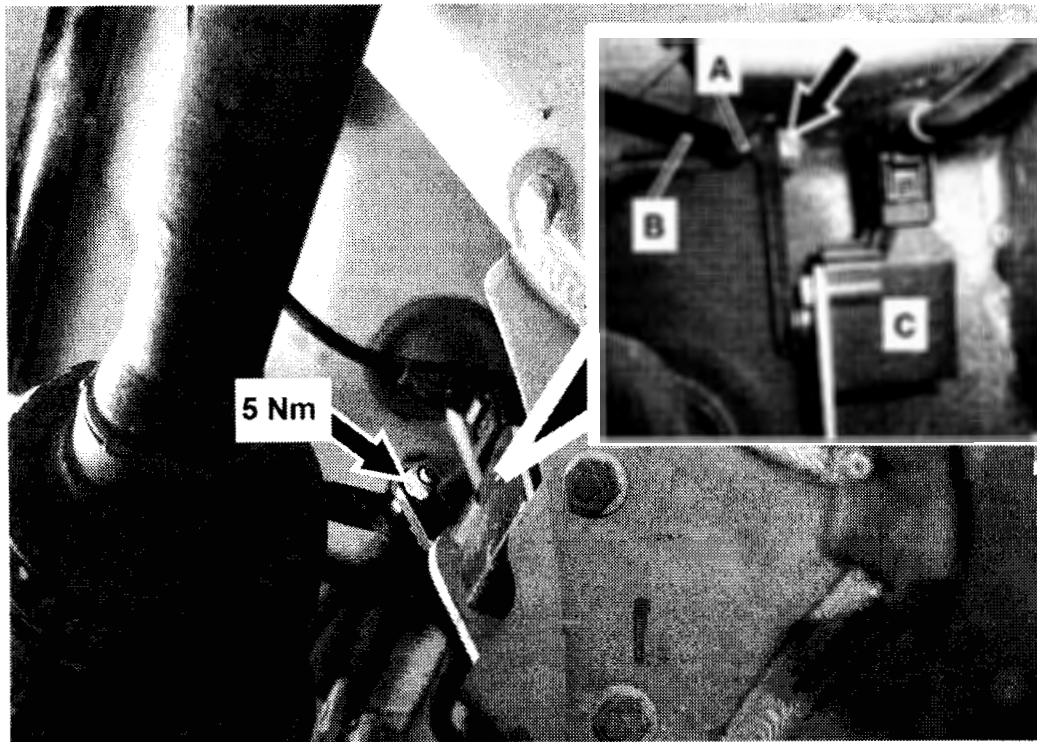

Figure 4
- Counter hold ball head (A, Figure 4) with open end wrench then unscrew level linkage (B) from level linkage sensor (C).
- Install new level linkage assembly (B, Figure 4) in reverse order,
Note: Torque new nut (arrows, Figure 4) to 5 Nm.